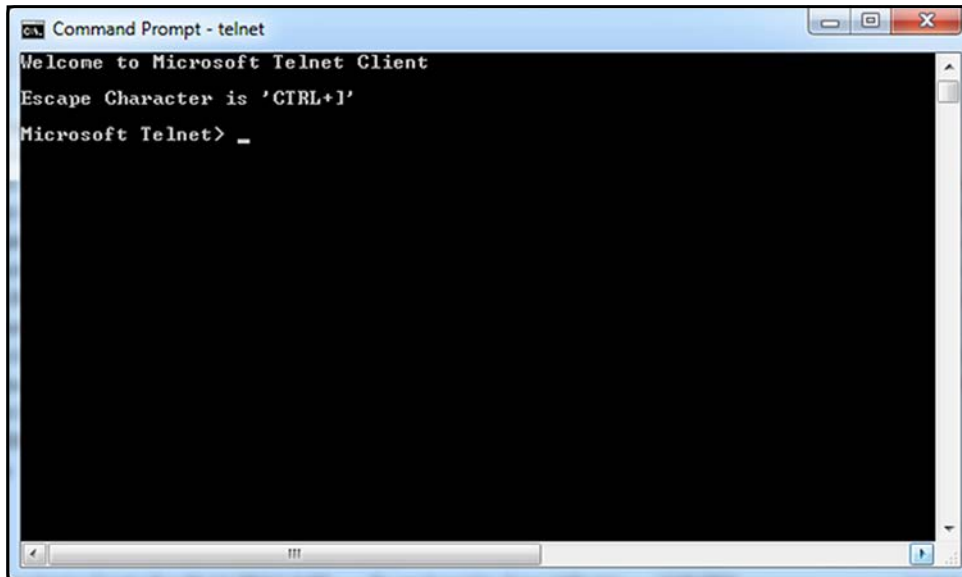

Figure 115: Telnet Client
1. At a Windows command prompt, enter **telnet** to run the Telnet client (see *Figure 115* below).